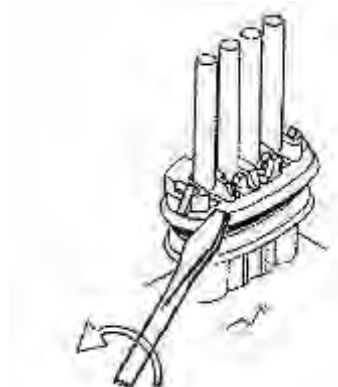

Figure 93
- a. Using a small screwdriver, open the secondary lock on the rear of the connector as shown in Figure 93.